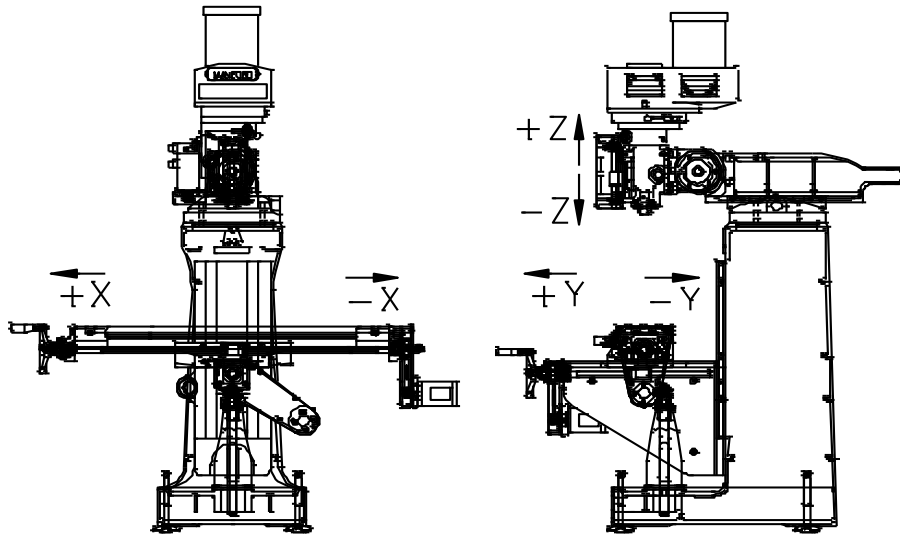

Fig. 3-3
3.2 Moving Directions (Refer to Fig. 3-3)